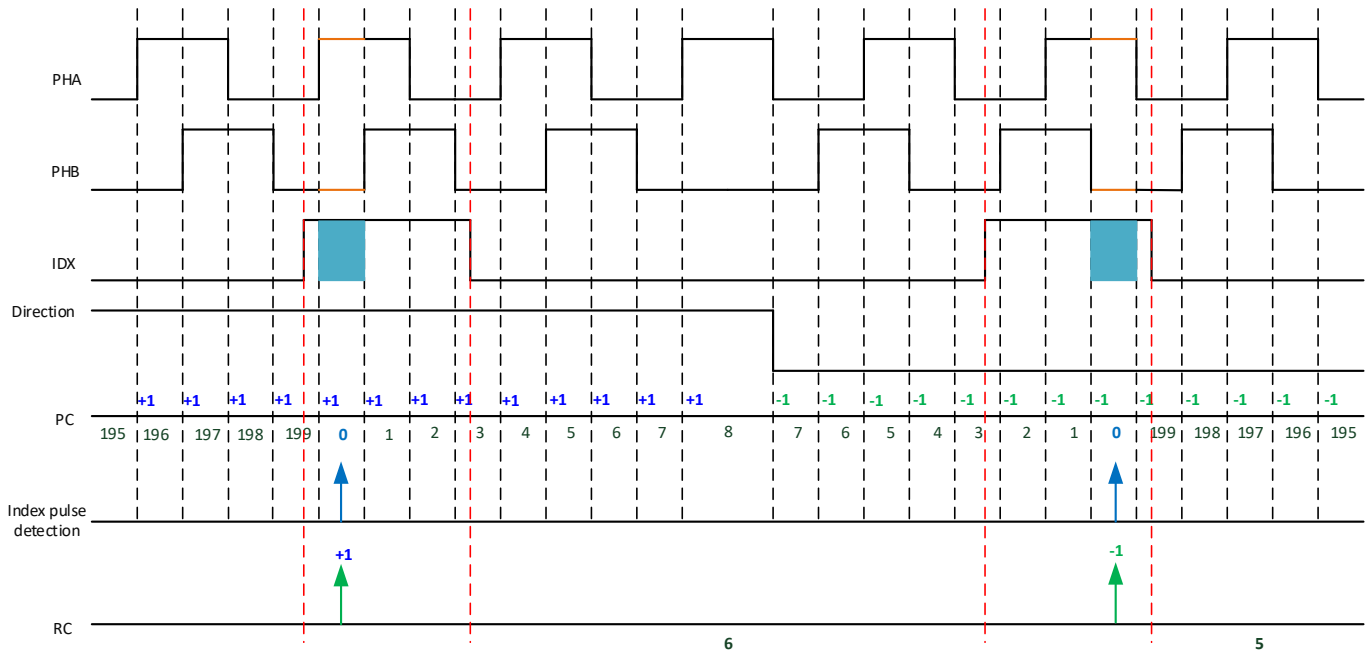
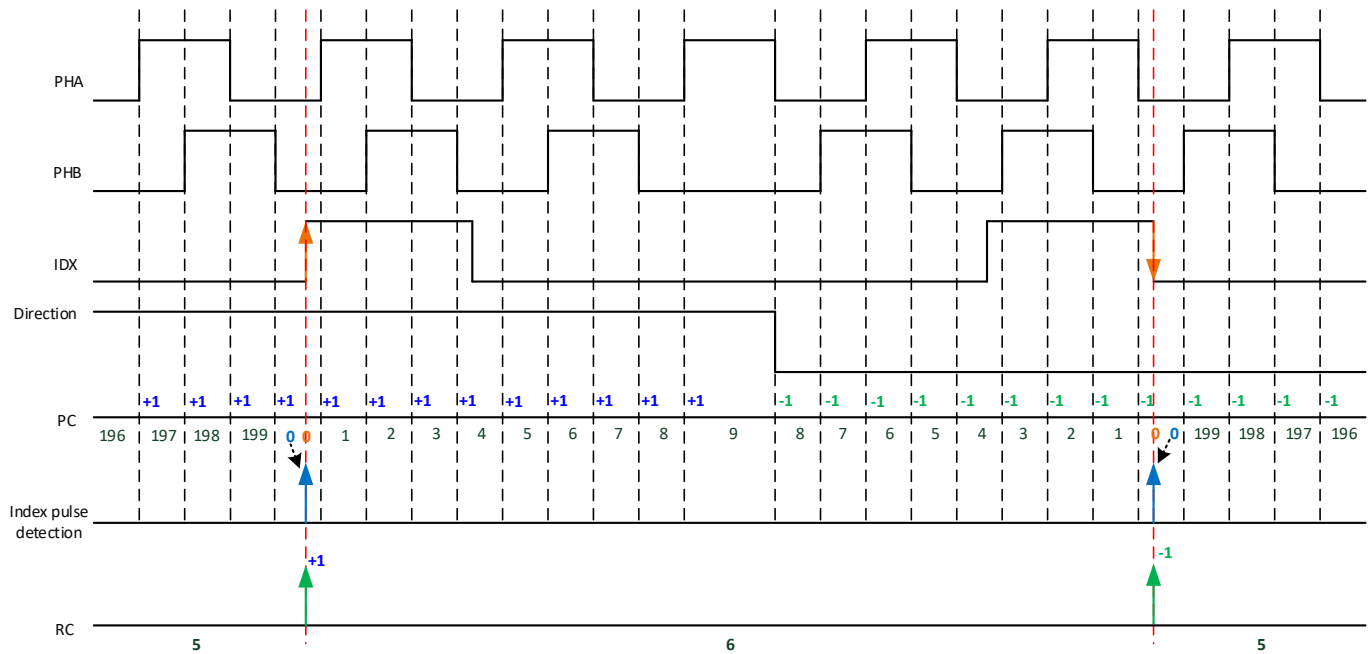
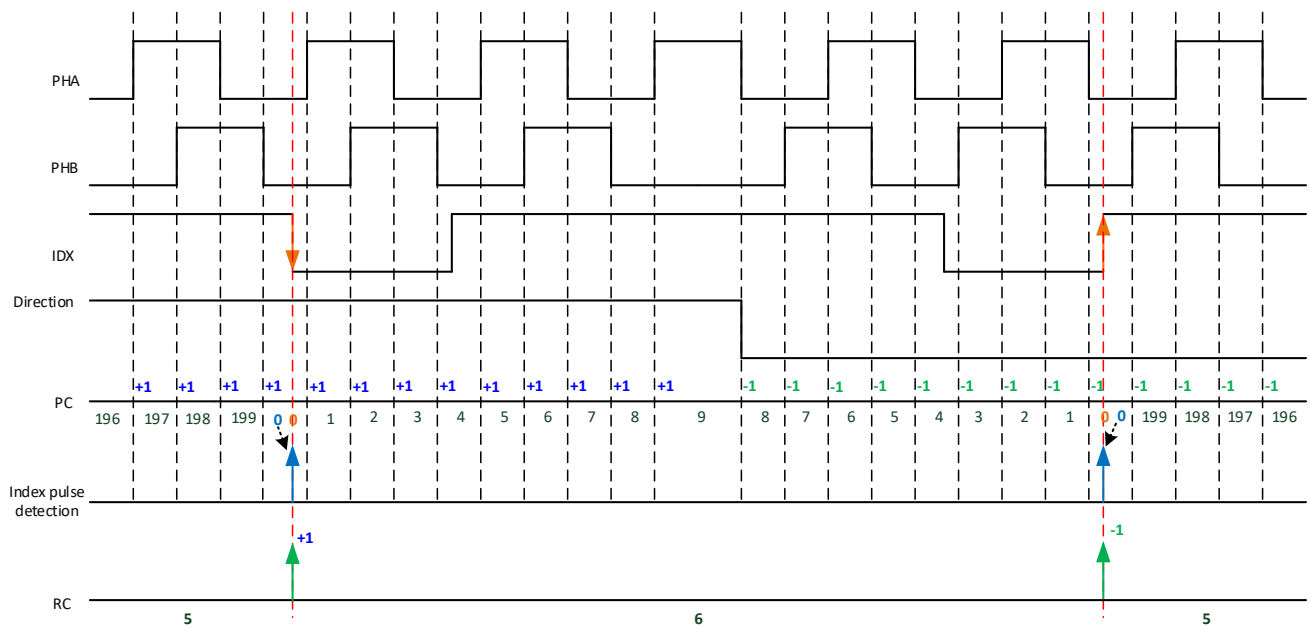

Fig 21-9 `IDX_INV = 0`, position counter is reset on (PHA, PHB) = (1, 0)
Fig 21-11 Auto-index mechanism when $IDX_INV = 0$
Fig 21-12 Auto-index mechanism when $IDX_INV = 1$
In the example of Fig 21-9, position counter is reset on state (1, 0). In this case, the position counter can also configured to be reset on state (1, 1), (0, 1), but state (0, 0) fails. For some encoder, index outputs high in idle states. In this case, software can configure `IDX_INV` to suite different encoder.
Getting the pulse detection can check the position value, reset the position value, and count the rotation in the example of Fig 21-11 and Fig 21-12.
- If the index pulse signal is enabled (depending on IDX_EN) and the rotation counter mode is 0 (depending on RC_MOD), this rotation counter increases or decreases (depending on the direction) by 1 on every index pulse. Fig 21-9 to Fig 21-12 give some cases.